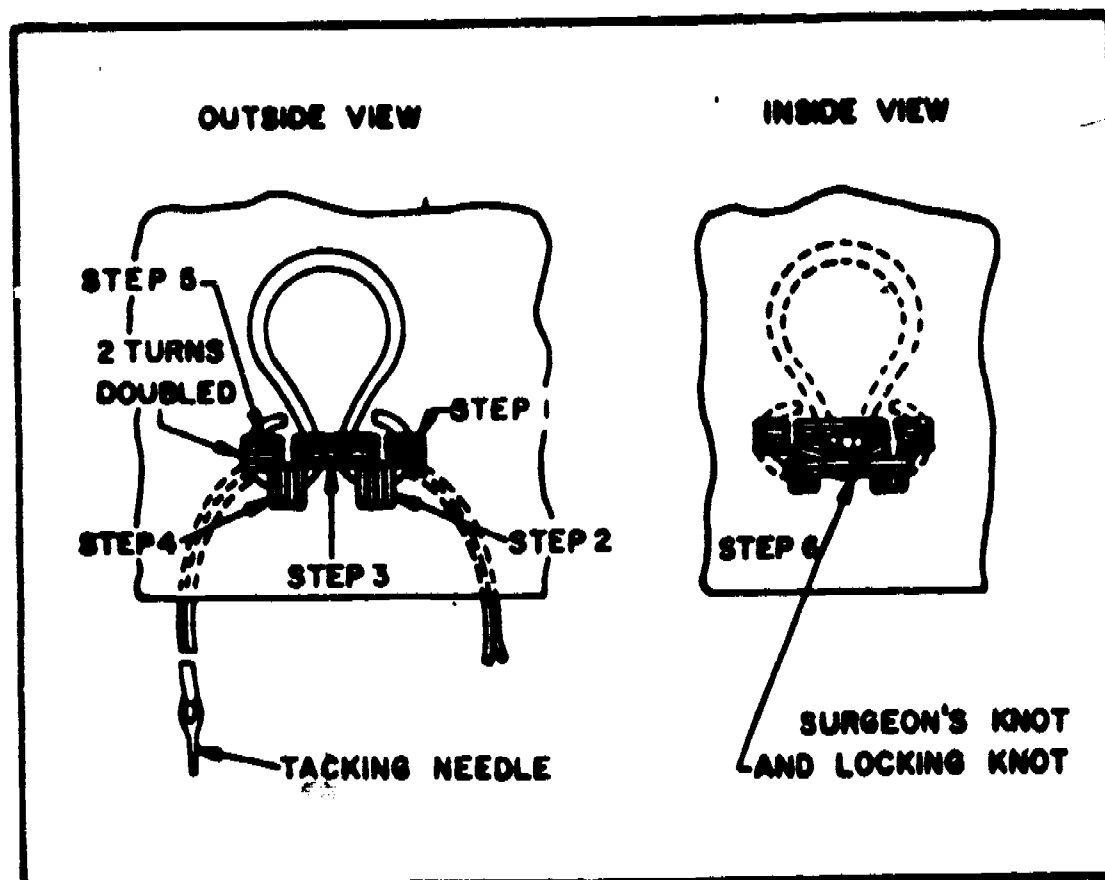

Figure 7. Installing in Eyelet.
- e. Refer to figure 7. Beginning with step 1, attach the eyelet with 10 turns -- 2 turns in five places.
f. Tie completed stitching with a surgeon's and lock knot as close as possible to the underside of the pack. (See figure 7, step 6.)